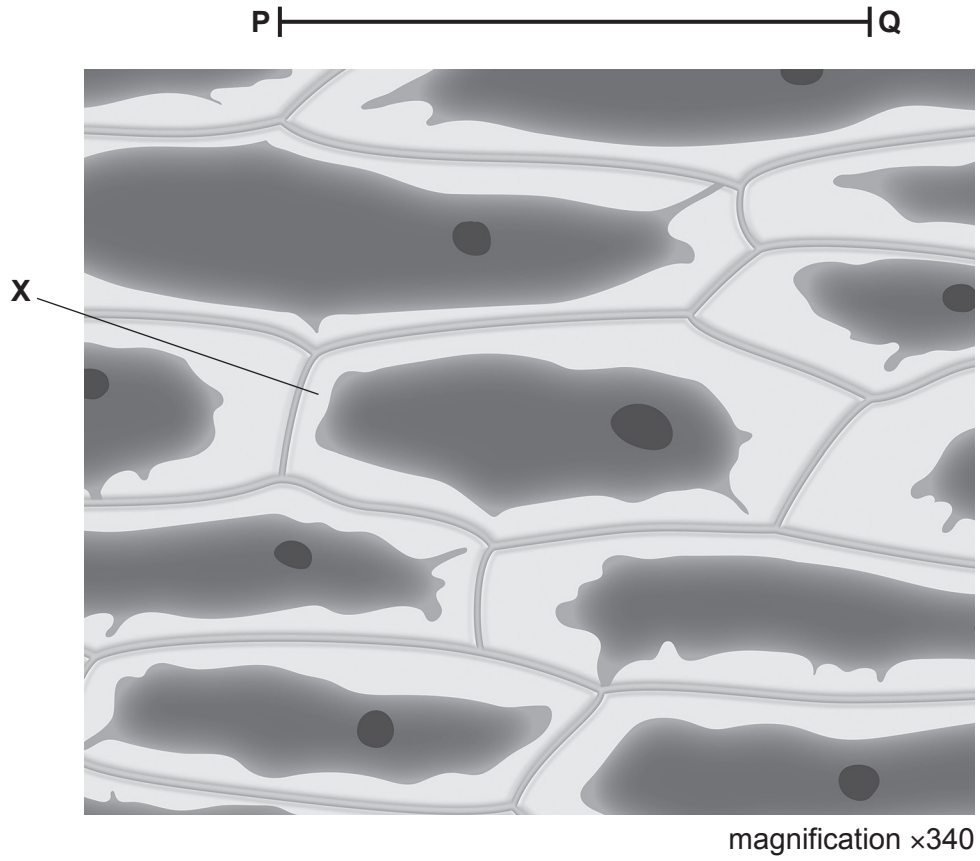

Fig. 2.1
- 2 (a) Fig. 2.1 shows epidermal cells from a red onion.
(i) Draw a large diagram of the cell labelled **X** in Fig. 2.1.
(ii) Line **PQ** on Fig. 2.1 represents the length of cell **X**.
Measure the length of line **PQ** on Fig. 2.1.
$$\text{magnification} = \frac{\text{length of line PQ in Fig. 2.1}}{\text{actual length of cell X}}$$